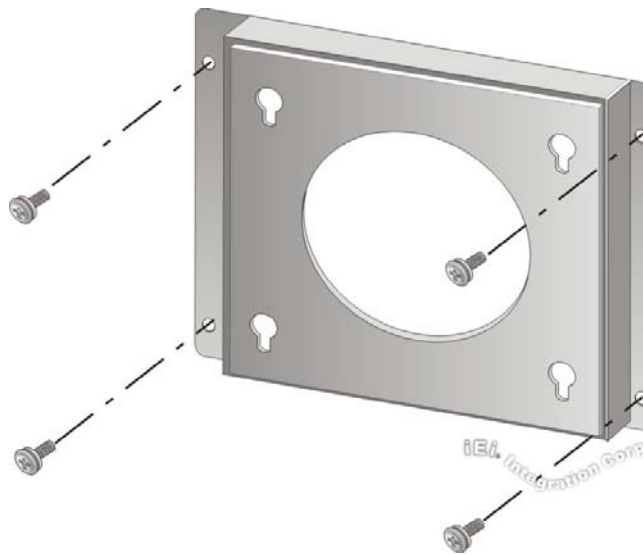

Figure 3-15: Wall-mounting Bracket
- Step 5:** Secure the mounting bracket to the wall by inserting the retention screws into the four pilot holes and tightening them (**Figure 3-15**).